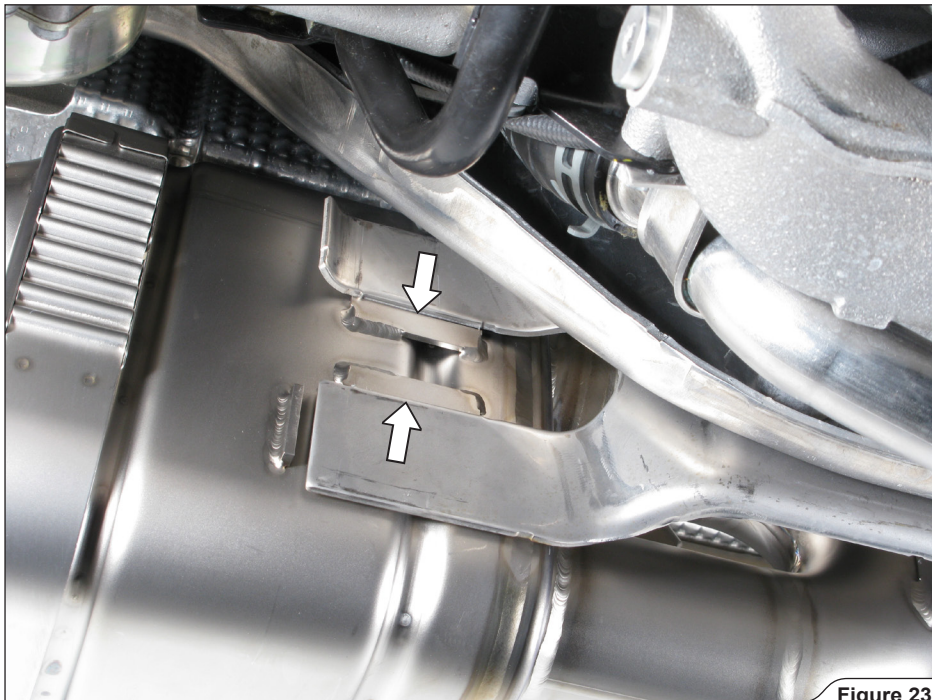

Figure 23
6. Hang the central muffler onto the bracket, as shown (Figure 23, 24).